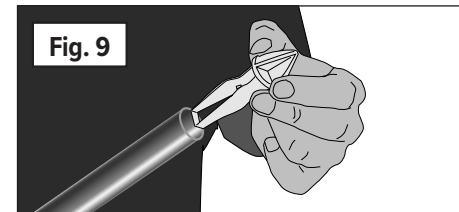

Fig. 9
2. **(Fig. 9)** Place the plastic Side Tube Insertion Plugs into both ends of one Side Tube.